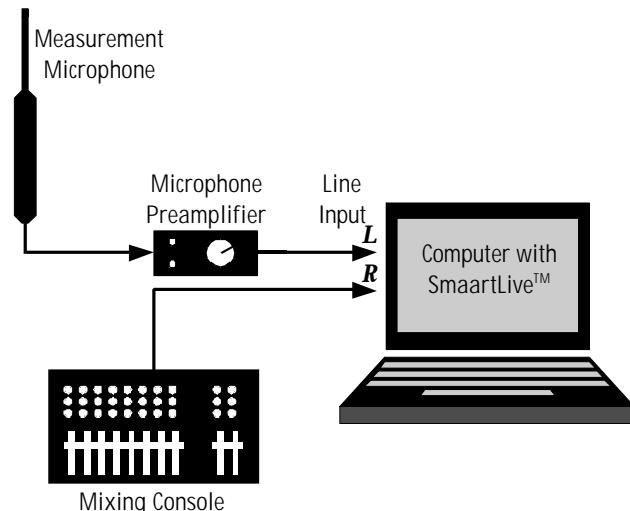

Figure 4: Example hardware configuration for RTA measurement.
**ON** Figure 4 shows the hardware configuration for this example. Any line-level signal may be used as an input source, although it is somewhat educational to perform this introductory measurement with a live microphone connected through a preamplifier. Now, launch SmaartLive, which should default into *Spectrum* mode. At any time, you may change the current measurement mode by clicking one of the mode buttons. Press the **ON** button to begin the real-time measurement.